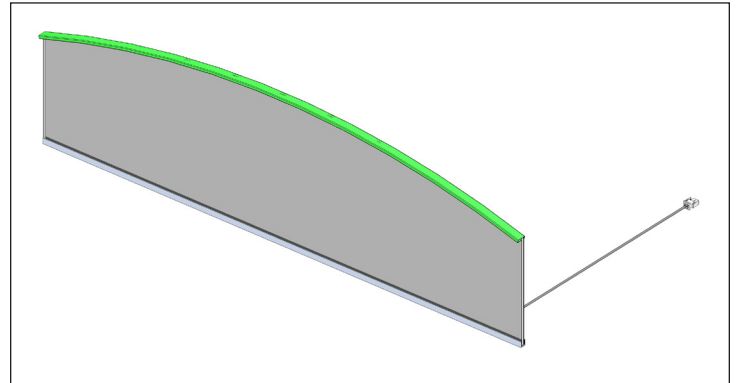

Fig. 1. Sign panel assembly.
1. Locate the sign panel assembly (see fig. 1). Gently lay the sign panel assembly on top of the cabinet.